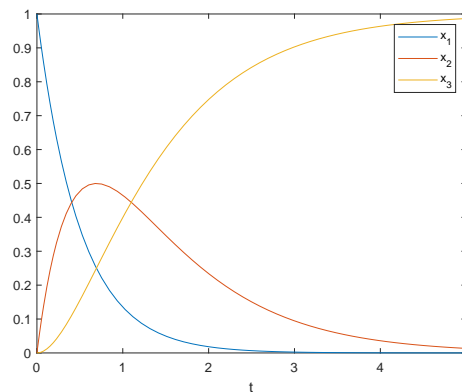

Figure 1.1: system simulation
- (b) the simulation result is shown as Fig.1.1. The code used in all of the exercise can be found in github <https://github.com/lixc21/MPC-Solution>.